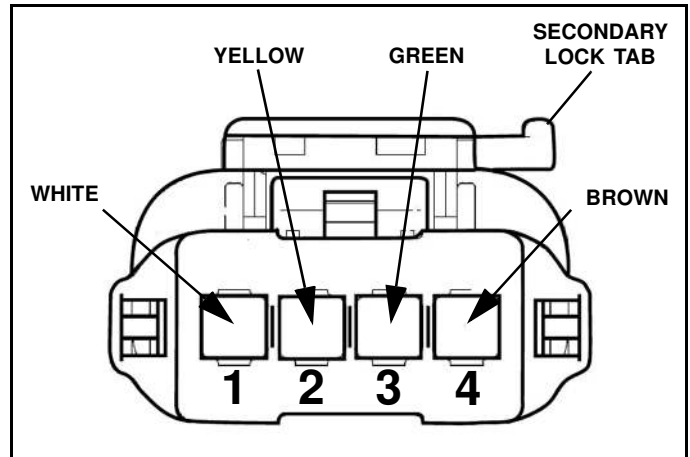

Figure 1-11
8. Remove blue pin lock from female connector. Push the pins on the end of each of the four wires into the back side of the connector (the end with recessed light blue seal). (See Figure 1-11 for pinning).
9. Verify wire placement by connecting the ProControl II™ harness. If wire colors do not line up, verify pin placement with Figure 1-11.